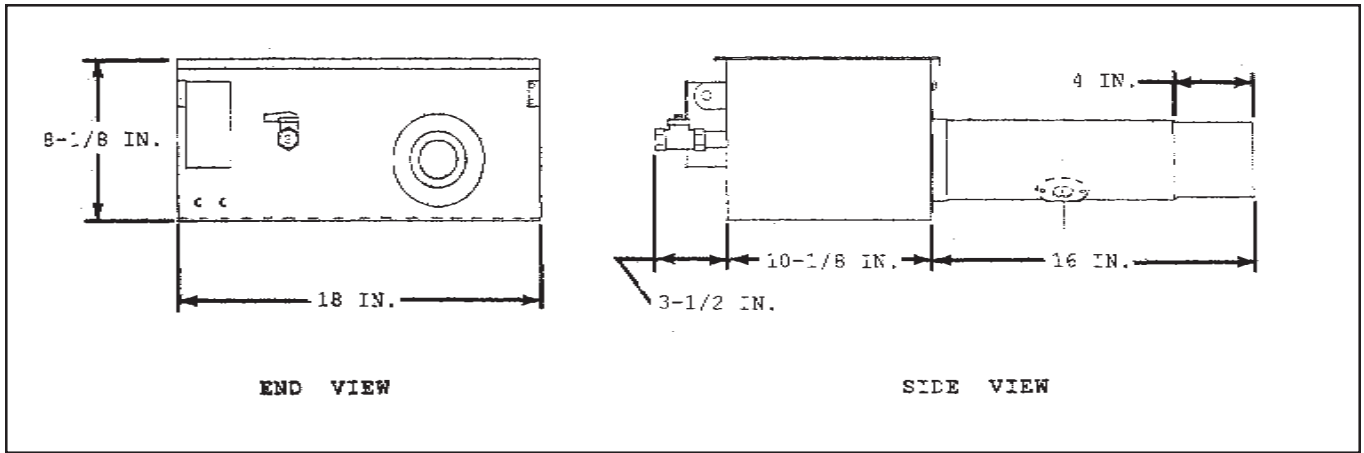

Figure 2.5
- The dimensions for various components in the system are shown in Figures 2.5 through 2.7.